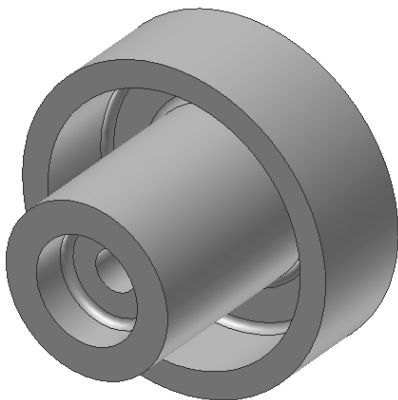
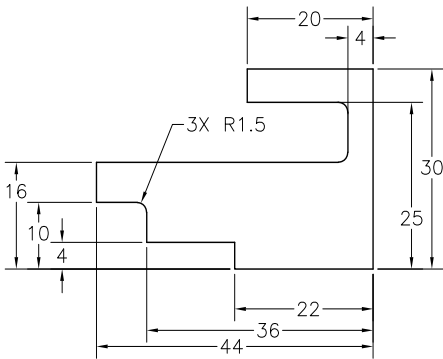

Figure 2-56 Revolved model for Tutorial 4
Figure 2-57 Sketch for the revolved model
In this tutorial, you will draw the basic contour of the revolved solid model shown in Figure 2-56. The contour that you will draw for creating this revolved solid is shown in Figure 2-57. Do not dimension the sketch as the dimensions are given only for reference.
- b. Invoke the **Line** tool and draw the sketch by specifying the coordinates of points in the **Inventor Precise Input** toolbar, refer to Figure 2-57.